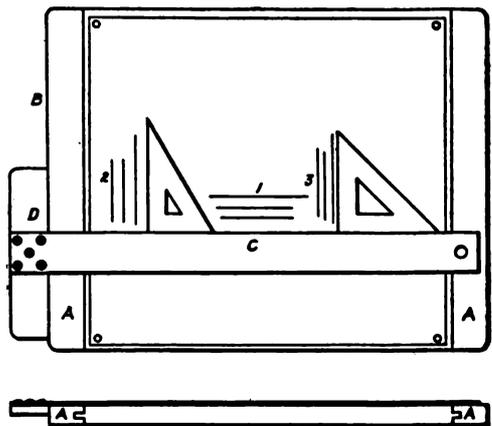

Fig. 1.
1. *Drawing-Board.* — The board is generally made of well-seasoned pine, from $\frac{3}{4}$ to $\frac{7}{8}$ in. thick, and for ordinary work, a board 17 x 22 in. in size will be found most convenient. Even though the board be well-seasoned, it has a tendency to warp, and, to prevent this, the maker usually places two cleats, either on the underside of the board or along its shorter edges (AA, Fig. 1). One of the shorter edges of the board (B, Fig. 1) is used as a working edge; and since the accuracy of the drawing is dependent upon the evenness of this edge, it is made a true plane. It is customary to place the working edge at the left hand, and for most work this is the only edge of
2. *T-Square*.—The T-square consists of a blade (*C*, Fig. 1) and head (*D*, Fig. 1); the head being securely fastened to the blade by means of screws. Various woods are used for making the blade and head, pear-wood being the most common. However, on the better grade of T-squares, the blades are edged with either ebony or celluloid. Ordinarily the head is rigidly attached to the blade, so that the inner edge of the head is exactly at right angles with the upper edge of the blade. In some cases the blade is made movable so that it can be adjusted to any angle with reference to the head. In using the T-square, the inner edge of the head slides up and down the working edge of the board and should be held firmly against it with the left hand. Since the working edge of the board is a true plane, it is possible to draw parallel lines (1, Fig. 1), by sliding the T-square along this edge, and all horizontal lines are drawn in this manner. In drawing, only the upper edge of the blade should ever be used, and this edge must not be injured in any manner.
possible to draw vertical lines (2 and 3, Fig. 1), that is, lines which are parallel to the working edge of the drawing-board.